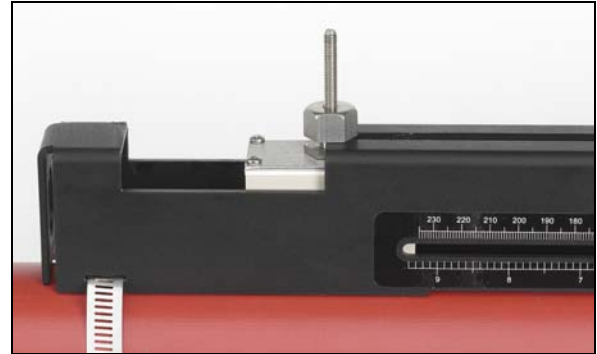

Figure 2.9
9. Following the method used to insert the downstream transducer, carefully lower the transducer assembly through the rectangular opening until the slots in the side of the transducer clamp align with the edges on the top of the guide rail (Figure 2.9).